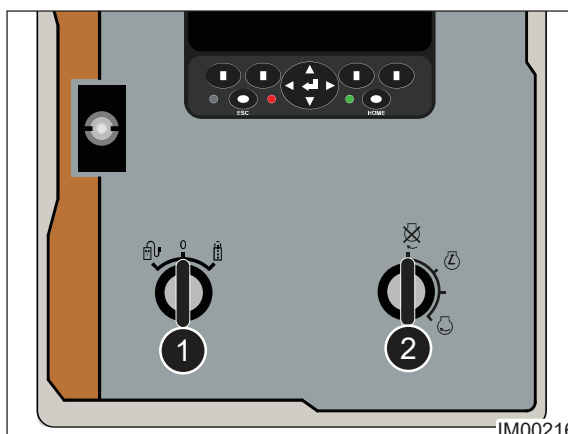

Fig: 9.5 - Control Panel
5. On the control panel, rotate the Handset Switch (Item 1, Fig: 9.5) to the Middle/Off position.
8. Rotate the ignition key (Item 2, Fig: 9.5) Counter-Clockwise to switch off the engine. Remove the key from the ignition and store in a safe location.